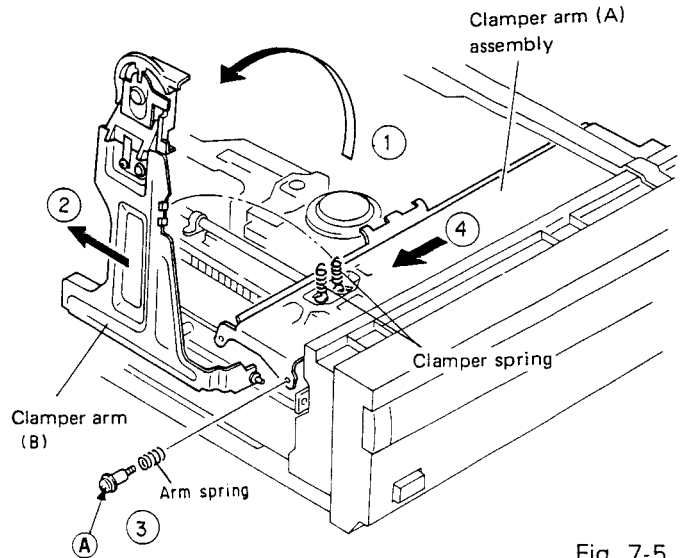

Fig. 7-5
7.4 REMOVING THE CLAMPER ARMS (B) AND (A) (Fig. 7-5)